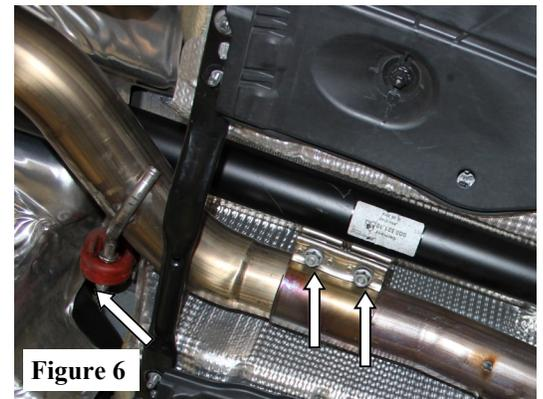

Figure 6
2. Place the original clamp over the front pipe assembly. Orient and position of the pipe and insert the hangars into the rubber isolator. (See Fig.6)